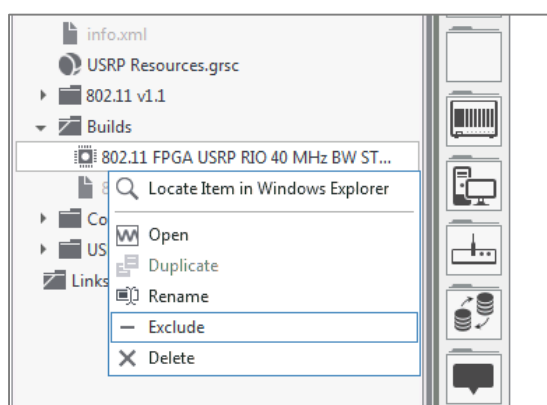

Figure 83: Option to Exclude Bitfile
15. **(Recommended)** Once the bitfile is finished building, exclude it from the project as shown in Figure 83 and include it again. This will ensure that the latest changes are actually applied.